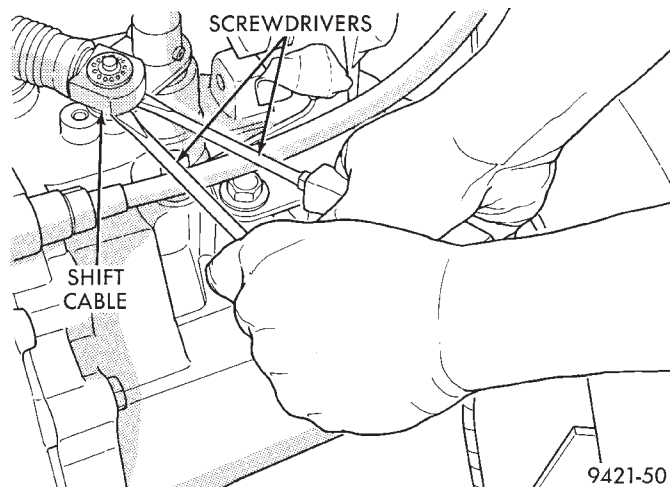

Fig. 20 Shift Cables
(4) Remove selector lever cable at transaxle (Fig. 20).
(5) Remove crossover lever cable at transaxle (Fig. 20).